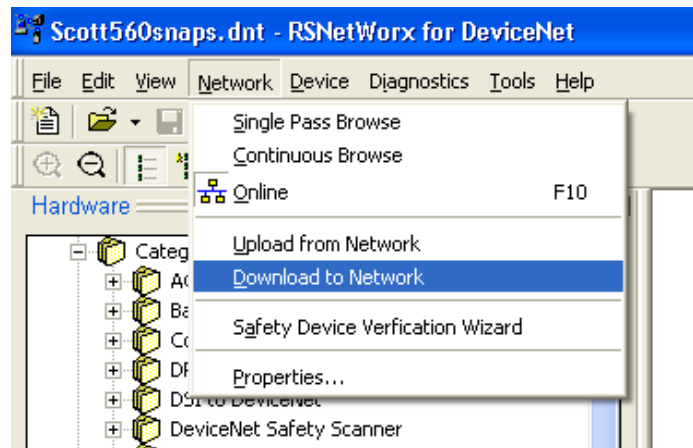

Figure 3-20: Network Download Confirmation Prompt
- Download the configuration to the scanner card, in order to commission the network. In the prompt that appears (Figure 3-20), click **Yes** to continue. Note that some scanner cards may require power down for changes to take effect.